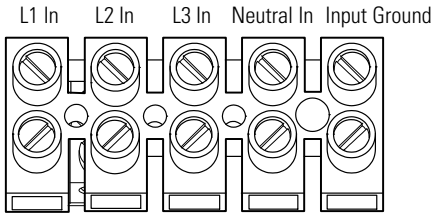

Figure 32. UPS Input Terminal Block
9. Connect the input and ground wires to the input terminal block according to Figure 32 and Table 1.